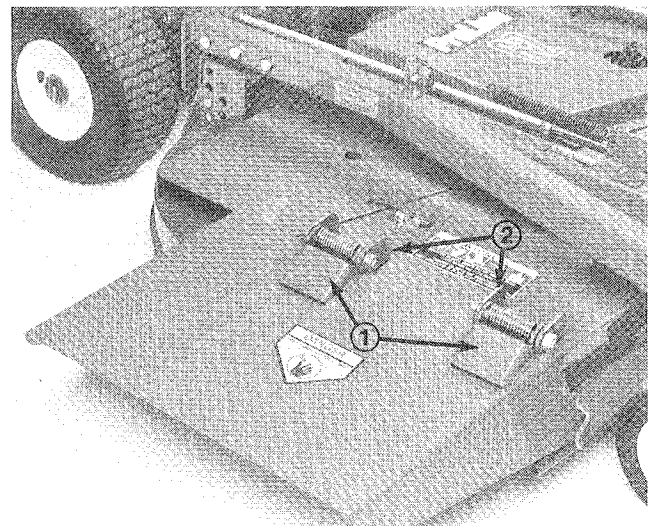
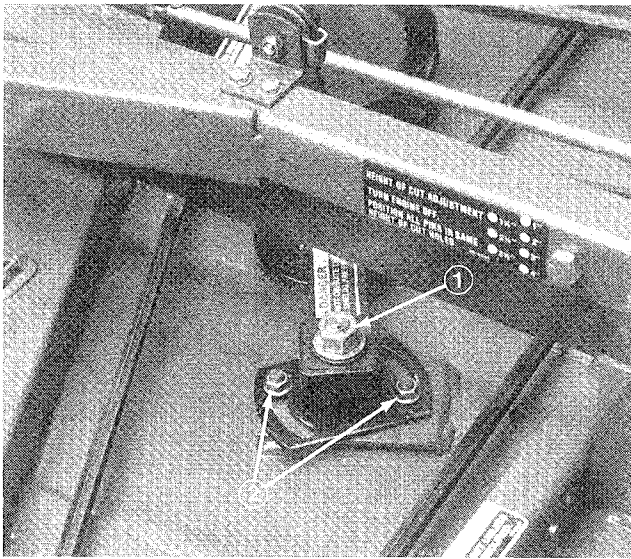

Figure 19
Figure 20
1. Remove two capscrews, locknuts and springs securing deflector mounts to pivot brackets (Fig. 19).
2. To remove the pivot brackets, remove carriage bolts and nuts (Fig. 19).
2. Loosen two nuts securing idler plate in place (Fig. 20). Using a socket and torque wrench, rotate the idler adjusting nut counterclockwise (left hand thread) (Fig. 19) until proper torque value is achieved.
2. Nuts (2)
3. Hold the torque against the belt and tighten the two nuts so idler plate is held securely in place (Fig. 20). Release the idler adjusting nut. Install cover and secure latches.
2. Loosen jam nuts on each adjusting shaft and remove engine to deck drive belt (Fig. 20).